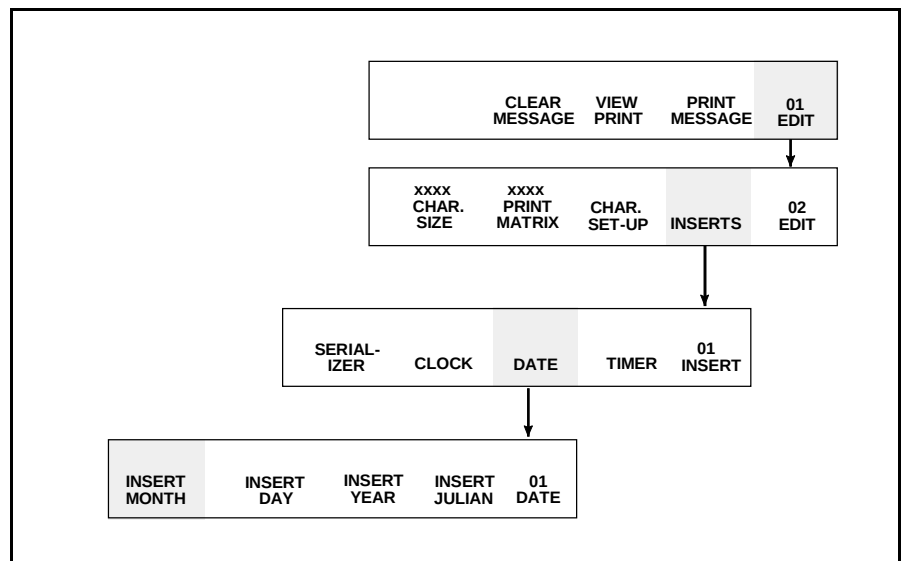

Figure 6-25. Accessing Frame <01 DATE>
1. Begin in Frame <01 DATE>. Refer to Figure 6-25.